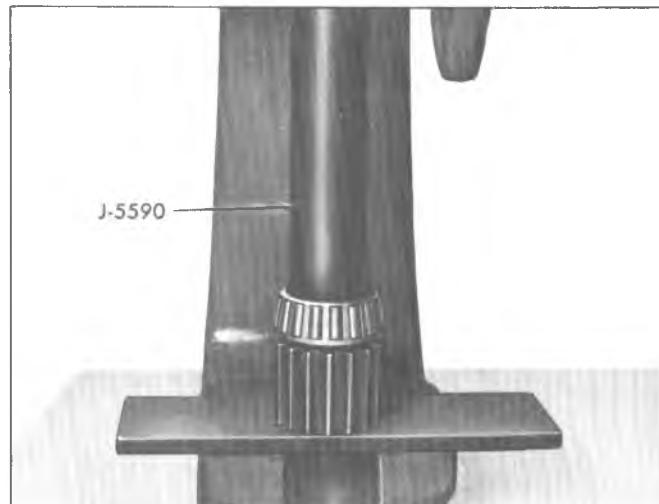

Fig. 9D-Installing Rear Output Shaft Front Bearing
2. Using Tool J-5590, press front bearing on shaft as shown in Figure 9D.